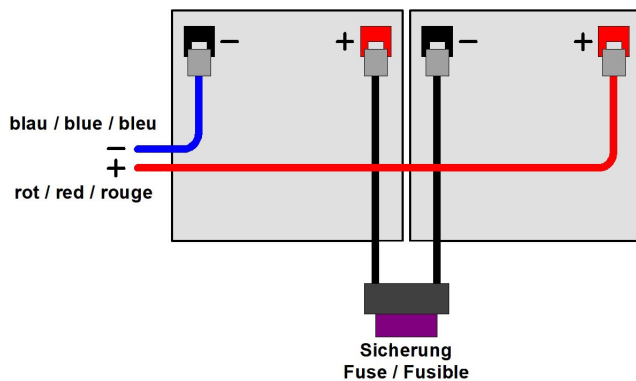
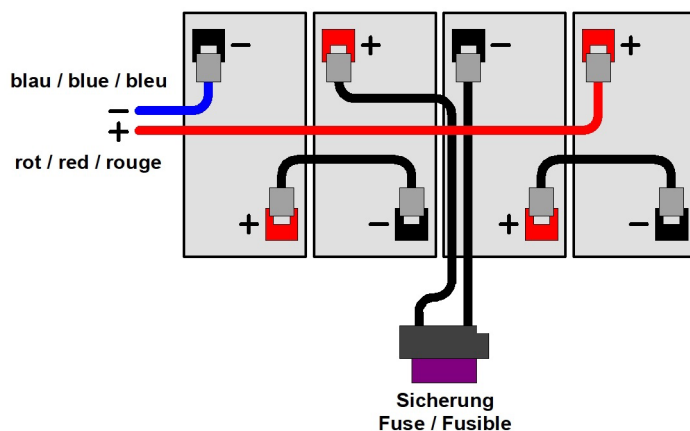
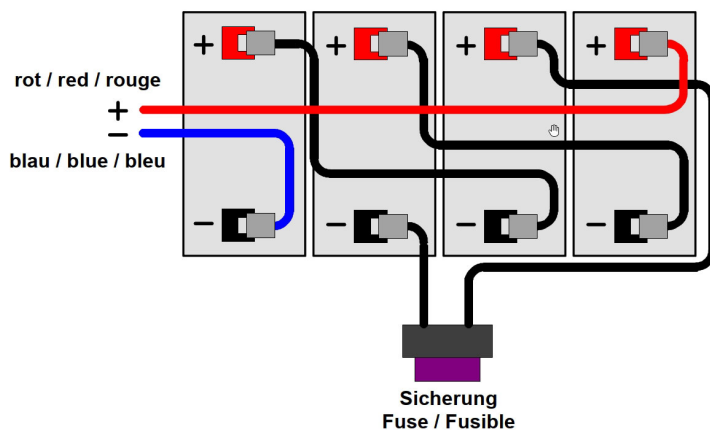

Fig. 2 Connection diagram with two batteries
Fig. 3 Connection diagram with four batteries
Fig. 4 Connection diagram with four batteries
- 2 Remove the battery circuit fuse (C).
- 3 Remove the battery holding strap (B).
- 4 Remove the upper four plugs on the battery (A). See figure 2, figure 3 or figure 4.
See figure 2, figure 3 or figure 4.